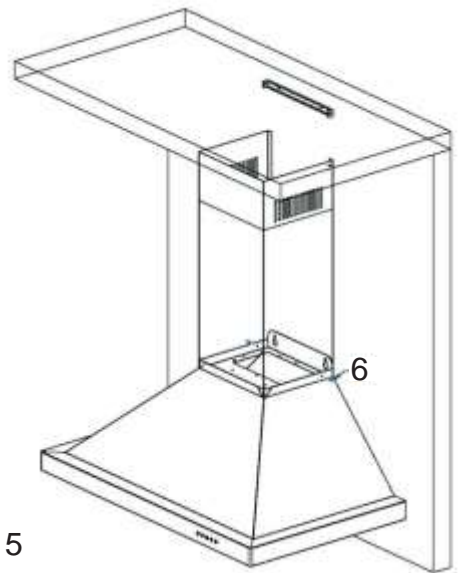

fig. 5
Step 6: Install the 2 part chimneys on top of the hood by sliding the inside section up until the vertical vent slots are visible. Then put both pieces on top of the hood and secure the lower portion with the provided screw at the bottom. fig. 5